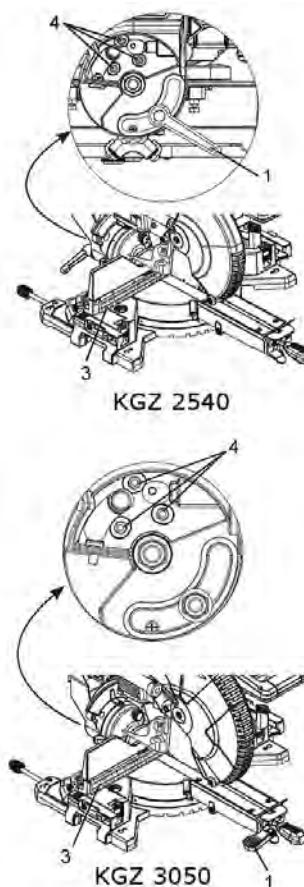

Fig. 18: Setting the 90° inclination
Adjusting the 90° inclination (Fig. 18, 19)
Setting the 45° right tilt angle positive stop (Fig. 18, 19, 20)
- Step 2:** Loosen the diagonal locking handle (1, Fig.18) and tilt the cutting arm to the right.
Setting of the 45° left tilt positive stop (Fig. 18, 19, 20)
Step 2: Loosen the diagonal locking handle (1, Fig. 18) and tilt the cutting arm to the left.
Setting the 33.9° right tilt angle (Fig. 18, 19, 20)
Step 2: Loosen the mitre locking handle (1) (Fig. 18).
Adjustment of the 33.9° left tilt angle (Fig. 18, 19, 20)
Step 2: Release the tilt lock handle (1). (Fig. 18)